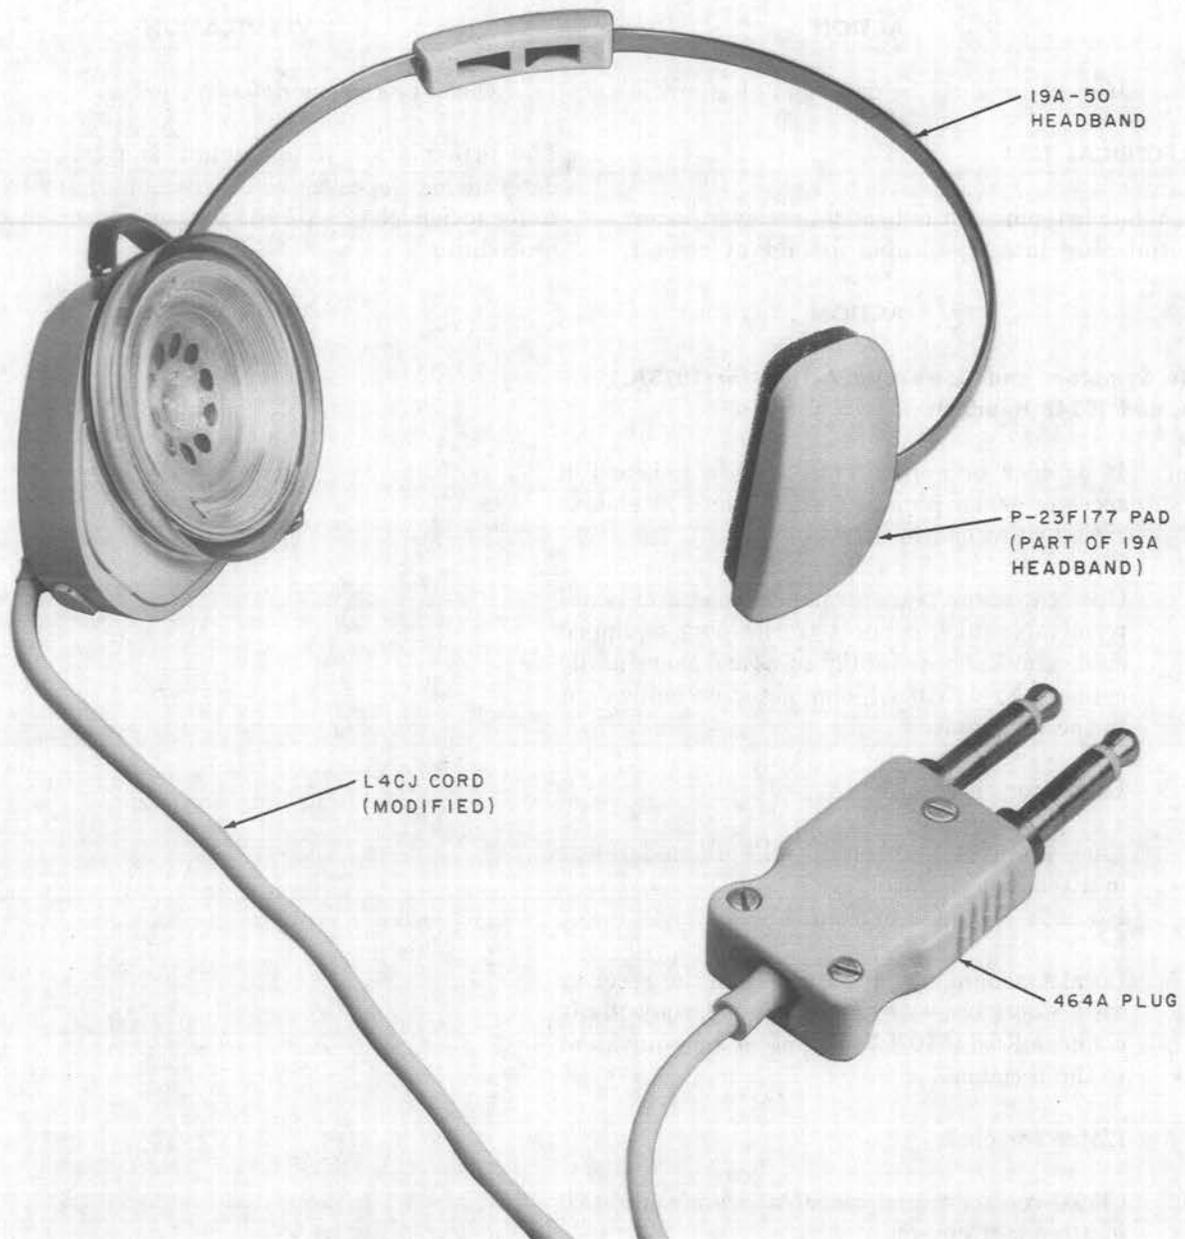

Fig. 3—1026A-Type Headset
1.05 The 1026A headset (Fig. 3) is designed as an alternative to the 1020B dual headset for use at the service observing desk. The 1026A headset parallels both service observing channels at a given position and applies them to a single receiver unit. The 1026A is also ivory colored (-50).